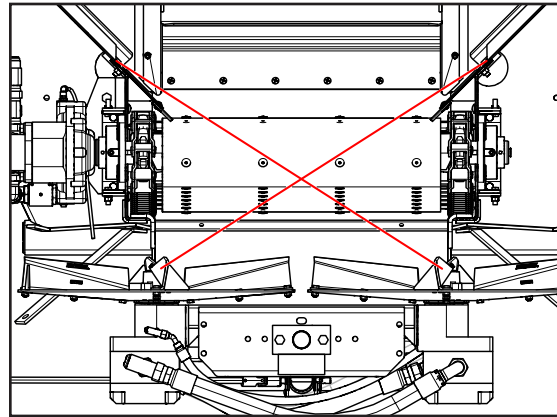

Figure 3A
3. Figure 3A - 3B - Check Spinner Assembly squareness by measuring from top edge of left hand Sill to inner hex flat on right hand Spinner Hub bolt. Repeat for opposite side.